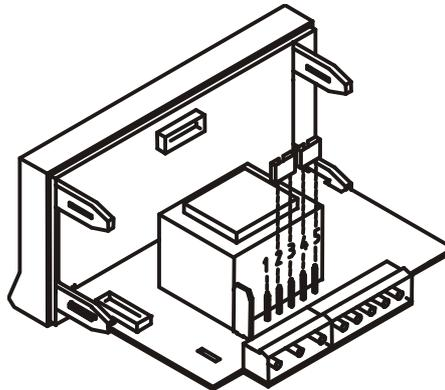

Fig. 9.2. Jumper settings for 230 V or 48 V AC
**115/ 230 V AC:** The instruments with 115/230 V AC power are set up at fabrication for 230 V AC (**USA market 115 V AC**), see figure 9.2. To change power supply configuration to 115 V AC, make the jumpers indicated in figure 9.3 and table 1. The wiring label should be modified to match the new configuration.
**24/48 V AC:** The instruments with 24/48 V AC power are set up at fabrication for 24 V AC, see figure 9.2. To change power supply configuration to 48 V AC, make the jumpers indicated in figure 9.3 and table 1. The wiring label should be modified to match the new configuration.